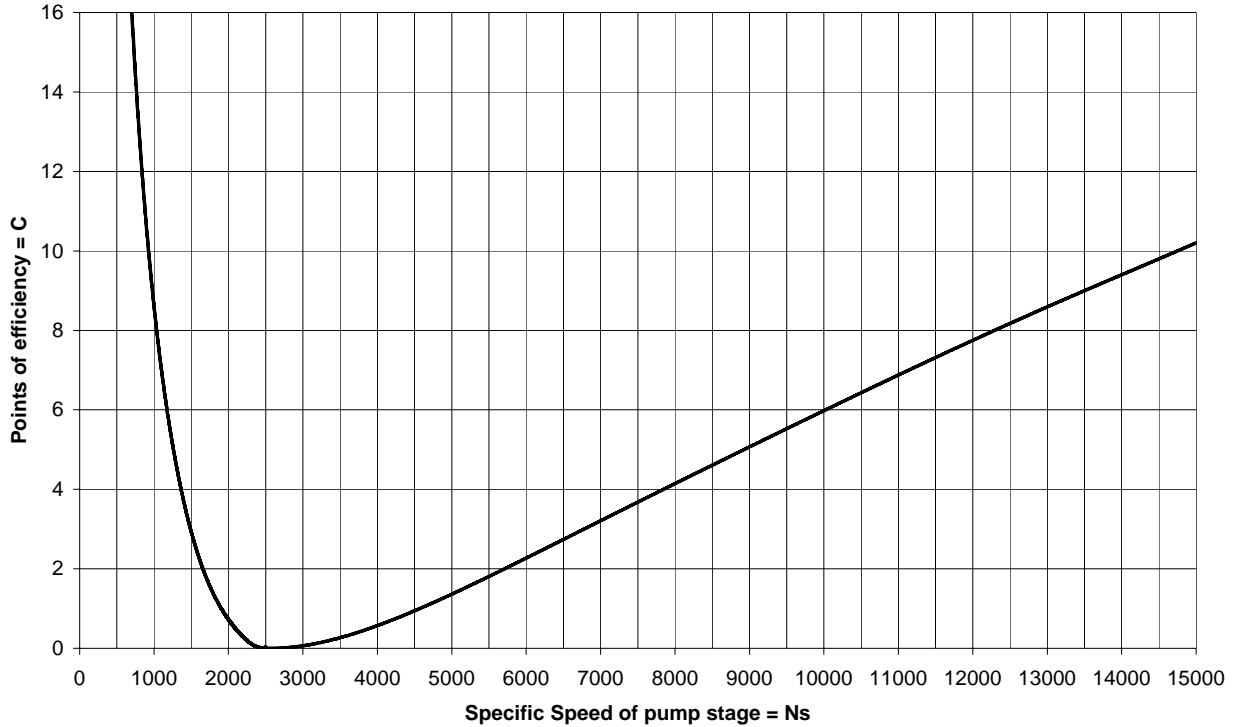

Fig 9.
A guide to the number of points of efficiency (C) to be added to a quoted efficiency figure in order to bring it to around the value of a pump of the same flow but of Optimum Specific Speed is provided by Fig 9. (Note that ‘one point of efficiency’ is defined as the difference between, say, 66% and 67%.)
Value of C from Fig 9:	5.